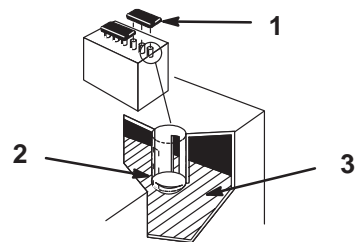

Figure 47
1. Open covers to see into the cells. The electrolyte must be up to the lower part of the tube (Fig. 47). Do not allow the electrolyte to get below the plates. (Fig. 47).
2. Lift off the filler caps (Fig. 47).
3. Slowly pour distilled water into each battery cell until the level is up to the lower part of the tube (Fig. 47).